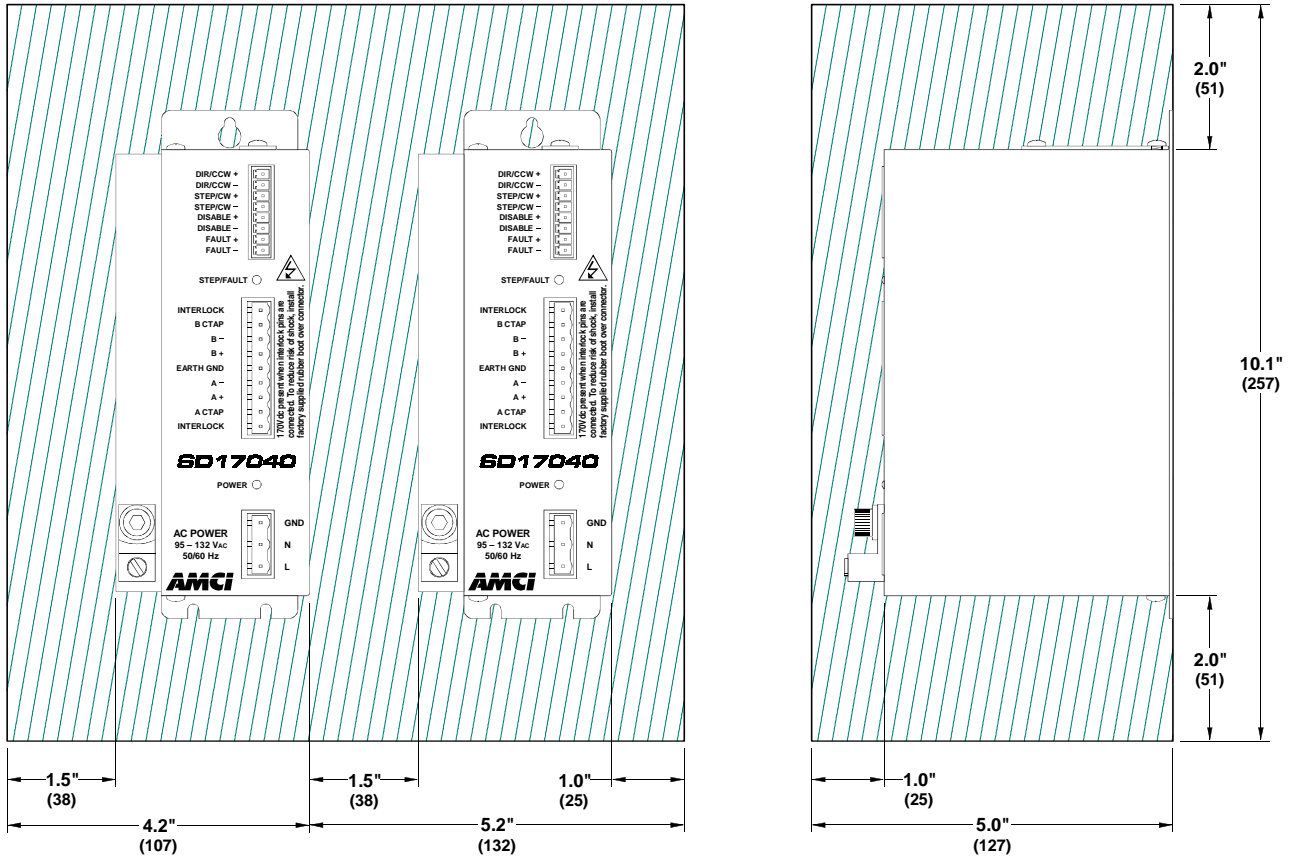

Figure 6.2 Mounting Clearance Dimensions
In order to assure proper convectional airflow around the SD17040 you must follow the clearance guidelines given in figure 6.2. If you do not have this amount of area around the drive, you may need to install a small cooling fan below it to force air up through the drive.
- In order to dissipate heat correctly, the SD17040 must be mounted with the heat sink fins vertical, as shown in figure 6.2. A large amount of heat can also be dissipated through the back panel if the drive is securely mounted to a metal panel.
- If mounting the drive in an enclosure, you must make provisions for proper air flow. The clearance dimensions given in figure 6.2 should be sufficient for most applications, but a small cooling fan mounted below the drive may be needed if the ambient temperature is high or the enclosure is not ventilated.